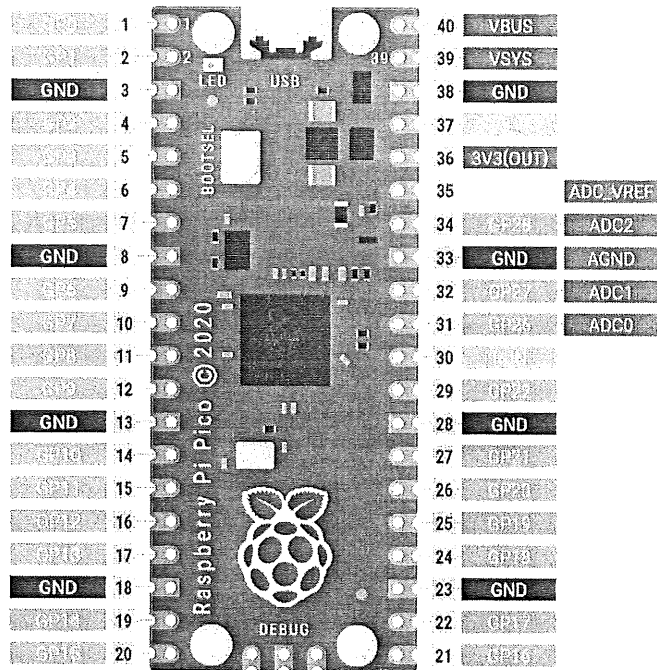
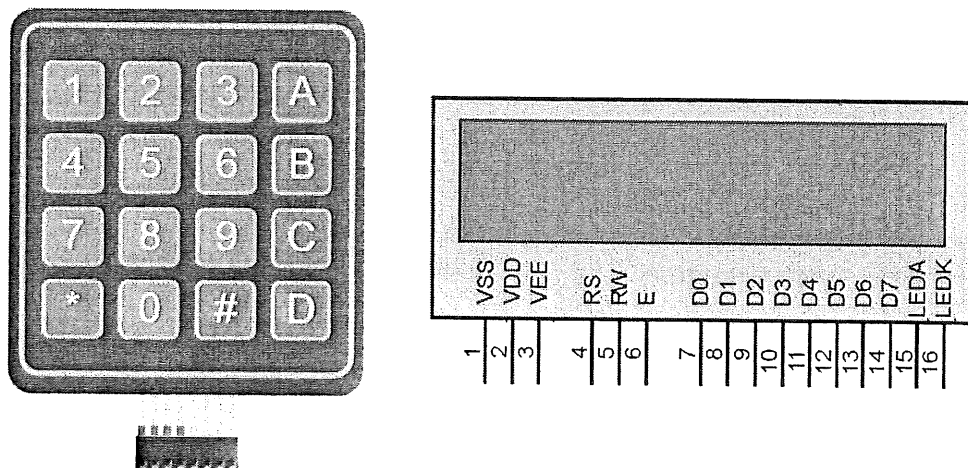
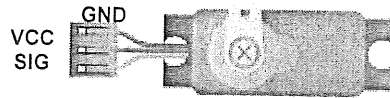

Figure 2: Pi Pico pin out
Figure 3: keypad and LCD
Figure 5: Servo Motor
- i. Produce schematic diagram for LED connection. Refer to figure 2 for the raspberry pi Pico pin out.
- i. Referring to the LCD and keypad in figure 3, produce the wiring diagram between these devices and the Pi Pico microcontroller. For Pi Pico pin out, refer to figure 2 in question 2. (10 marks)
- iii. Produce a diagram how the servo motor is connected to Pi Pico in program. Use Figure 5 for servo reference for connection. Pi Pico pin out, refer to figure 2 in question